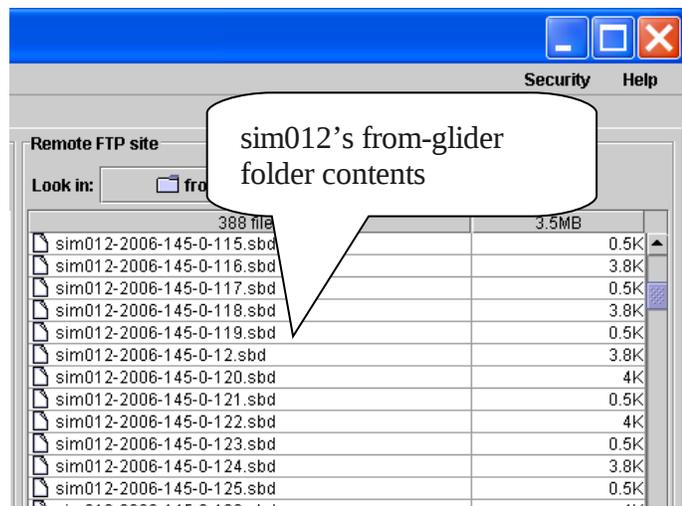

Figure 9-7. sim012’s from-glider folder contents.
3. Drill down to the glider of interest’s “from-glider” folder on the Dock Server by double clicking the folder labeled with that glider’s name and then double clicking the “from-glider” folder. Figure 9-7 shows the contents of glider sim012’s from-glider folder.